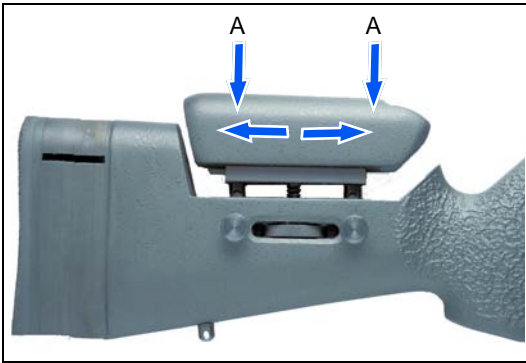

Abb. 13
1. Release screws **Fig. 13/A** (approx. four turns).
3. Tighten the screws **Fig. 13/A** well.